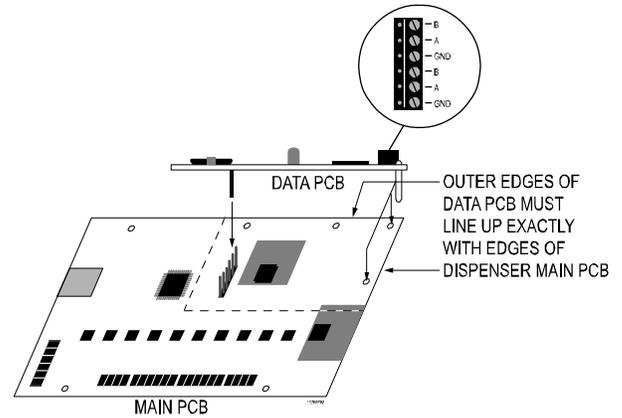

Figure D1a. Data PCB alignment over main PCB
3. Place the Data PCB over the Main PCB as shown. The six pins of pin connector J4 (labeled "Data Module") near the center of the main PCB must insert into the complementary connector on the underside of the Data PCB. The pins must be lined up correctly, with one pin in each hole with the outer edges of the Data PCB exactly aligned with those of the dispenser main PCB. Be careful not to bend the pins. See Figure D1a.